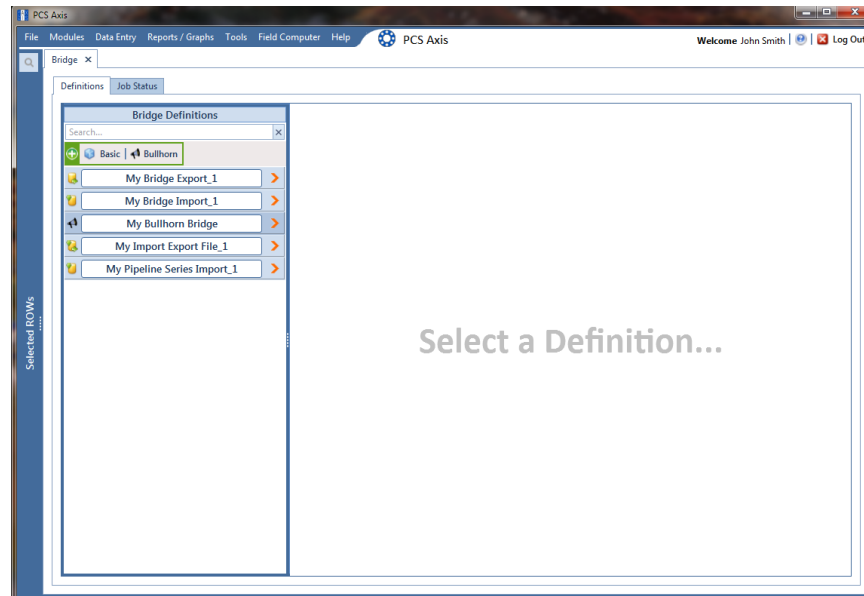

Figure 10-70. Select Definition
- 2 Click **Tools > Bridge** to open the *Bridge* window (Figure 10-70).